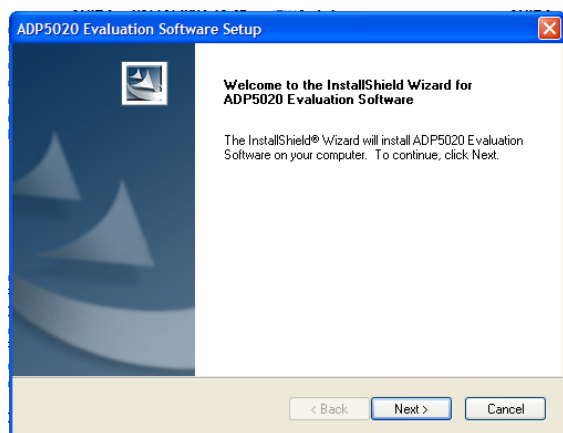

Figure 2. ADP5020 Evaluation Software Setup
4. Launch the file **Setup.exe**. When the dialog box shown in Figure 2 appears, click **Next >** to continue.